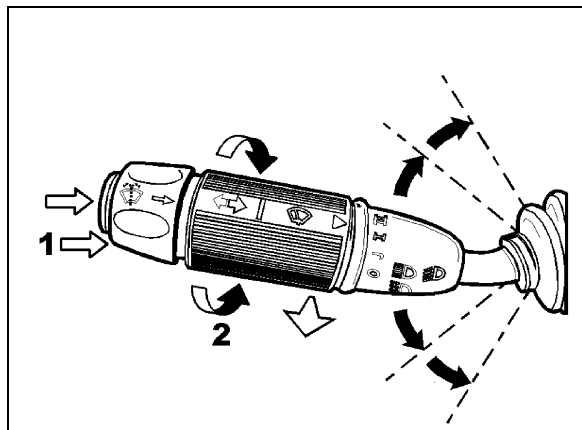

FIGURE 34: MULTIFUNCTION LEVER
Turn the multifunction lever forward to activate windshield wipers (item 2, Figure 34). The first position operates the wipers at low speed and the second position operates the wipers at high
The windshield washer pumps are electrically operated and are controlled by a washer control ring on the multifunction lever (item 1, Figure 34).